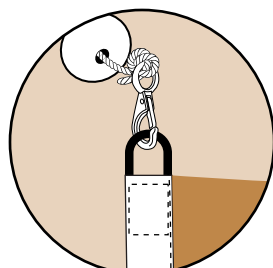
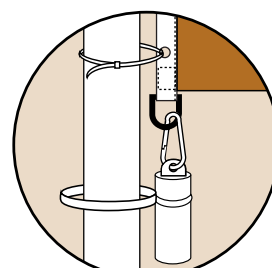

Fig 13,
Fig 14,
16. Wind the winch to bring the halyard and weight down, ensuring flag is the correct way up, clip the halyard onto the top D-ring on the flag, (See Fig 13) and clip the weight onto the bottom dring. (See Fig 14)